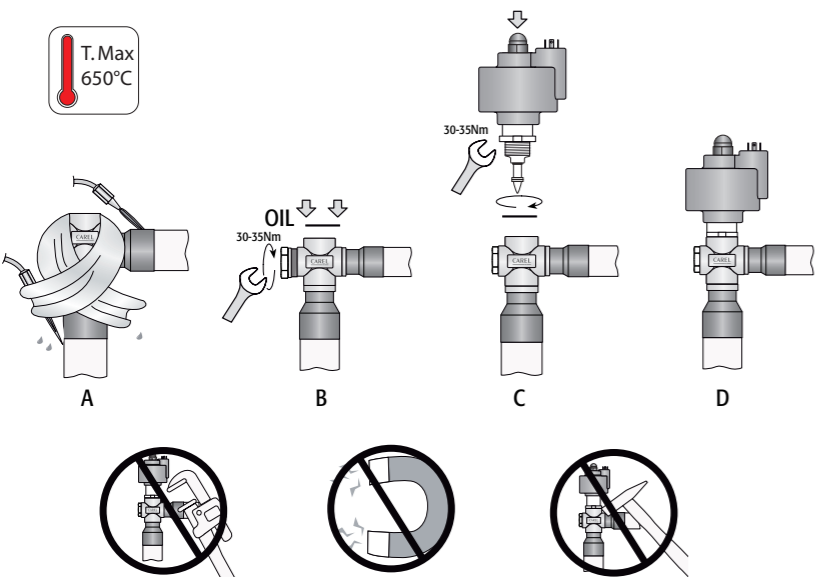

Fig. 2
Le valvole E4V devono essere saldate al circuito mediante brasatura dei raccordi in rame ai tubi di uscita condensatore (IN) e di ingresso evaporatore (OUT). Seguire la successione indicata in Fig. 2 procedendo in questo modo:
2. Avvolgere uno straccio bagnato sul corpo della valvola e procedere alla saldatura senza surriscaldarla orientando la fiamma verso l'estremità dei raccordi come da fig. 2 A (per una migliore brasatura senza alterare la tenuta della zona di saldatura tra corpo e raccordi utilizzare lega con temperatura di fusione inferiore a 650 °C o con tenore di argento superiore del 25 %).
The E4V valves must be joined to the circuit by braze welding the copper fittings to the condenser outlet (IN) and evaporator inlet pipes (OUT). Proceed as indicated in Fig. 2.
2. Wrap a wet rag around the body of the valve and weld the fittings, without overheating the valve, aiming the flame at the end of the fittings as shown in Fig. 2 A (for better braze welding without affecting the seal of the weld between the body and the fittings, use alloys with a melting temperature of less than 650 °C or with a silver content higher than 25 %);
4. Insert the O-ring (OR3112 -inside diameter 28.25mm - thickness 2.62 mm - material: Neoprene) included in the packaging into the corresponding opening, pressing it in by finger. Check the correct position of the O-ring by making sure there is uniform adhesion on the bottom of the seal seat (Fig. 2 B);
5. Tighten the steel cartridge to the special threaded socket in the valve body using a 34 mm Hex key, making sure the O-ring is fitted to ensure hermetic tightness. Tighten the cartridge by pressing the ring against the valve body with a recommended torque of 30-35 Nm (Fig. 2 C).
6. Make sure that the red stator is fully inserted on the cartridge with the black nut screwed on tightly until deforming the rubber ring on the stator (tightening torque 0.8 Nm). (Fig. 2 D)